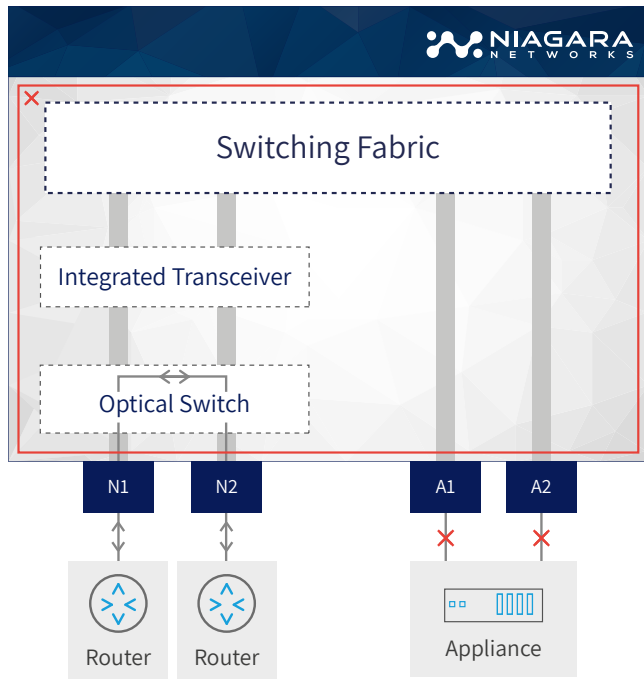

Figure 4: Power Failure Mode
**Failsafe protection** - protecting network traffic flow in the event of BypassP2 failure. When power fails, as depicted in figure 4, the optical-relays ensure that the network flow continues uninterrupted. The optical relays can be configured fail open or fail close to meet specific deployment needs. An optical switch mechanism is the most reliable method for connecting inline devices to your network, while ensuring uninterrupted network services under all conditions.